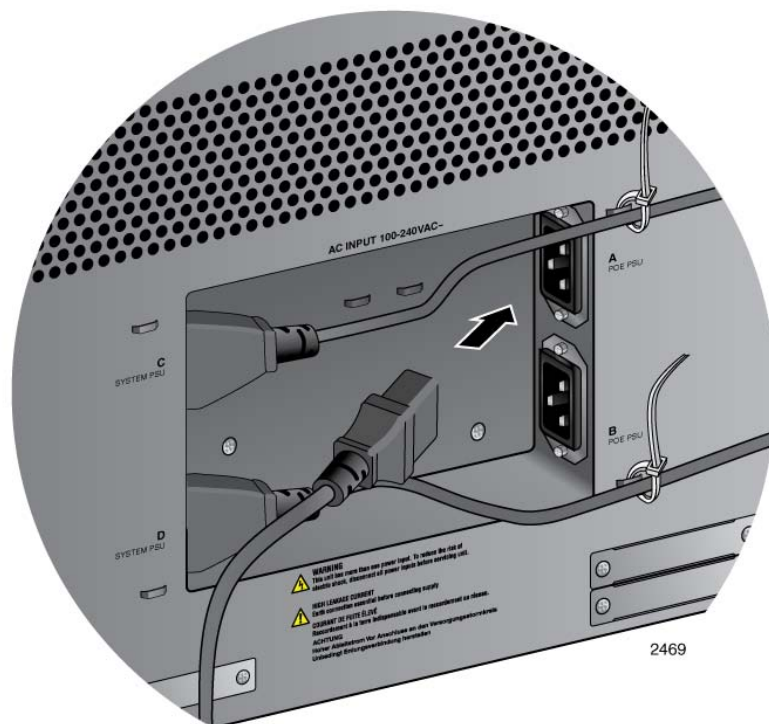

Figure 107. Connecting the AC Power Cord for the AT-SBxPWRPOE1 Power Supply
2. Plug the AC power cord that comes with the power supply into one of the plugs, as shown in Figure 107.